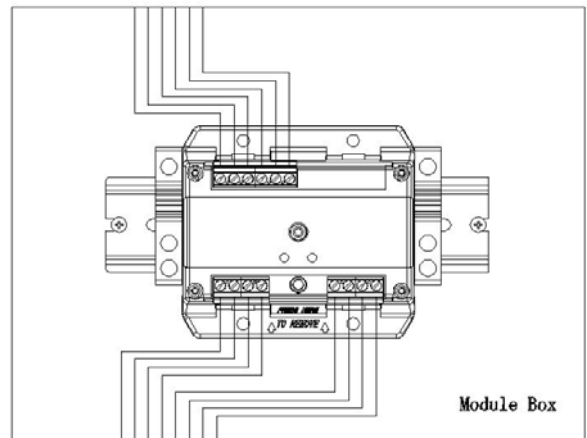
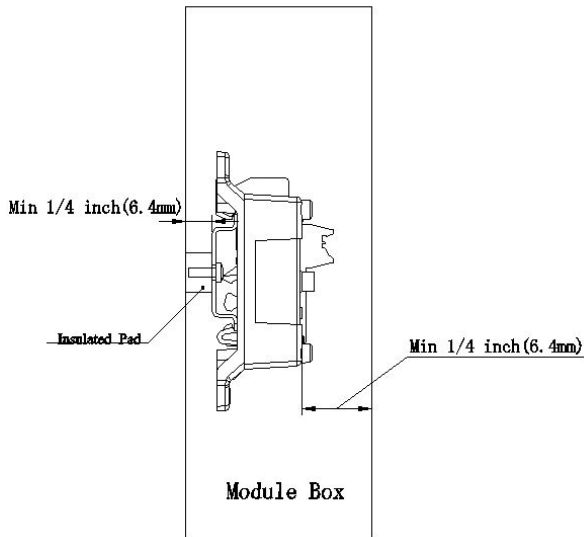

Fig. 2
Fig. 3
- 2) The module shall either be installed in a North America standard metal electrical box. Minimum size is 4 in. square, 2-1/8 in depth (in this case, standard box cover is required), or in a UL Signaling Listed enclosure that provides minimum wiring entries and spacing as shown on Fig 2 and Fig 3. Minimum mounting space is 67×40.5mm.